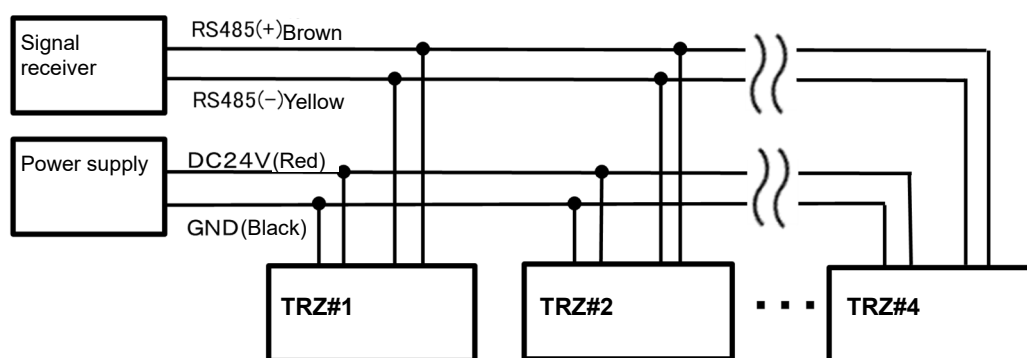

Fig. 4-4 Signal receiver and connections (RS485 output specification: R)
- If multiple meters are to be connected as shown in Fig. 4-4, choose a power supply with more than sufficient power supply capacity. A rough guideline would be 1.5W multiplied by the number of units connected.
- Activate the 100 ohm terminator resistor between communication lines only on the meter that is physically the farthest away from the signal receiver. In Fig. 4-4, (TRX#4) would be the applicable one.
- When connecting an external connection cable, use an equivalent of or one with a higher capacity than a six-core cable UL style 20276-5B AWG×6C (2).